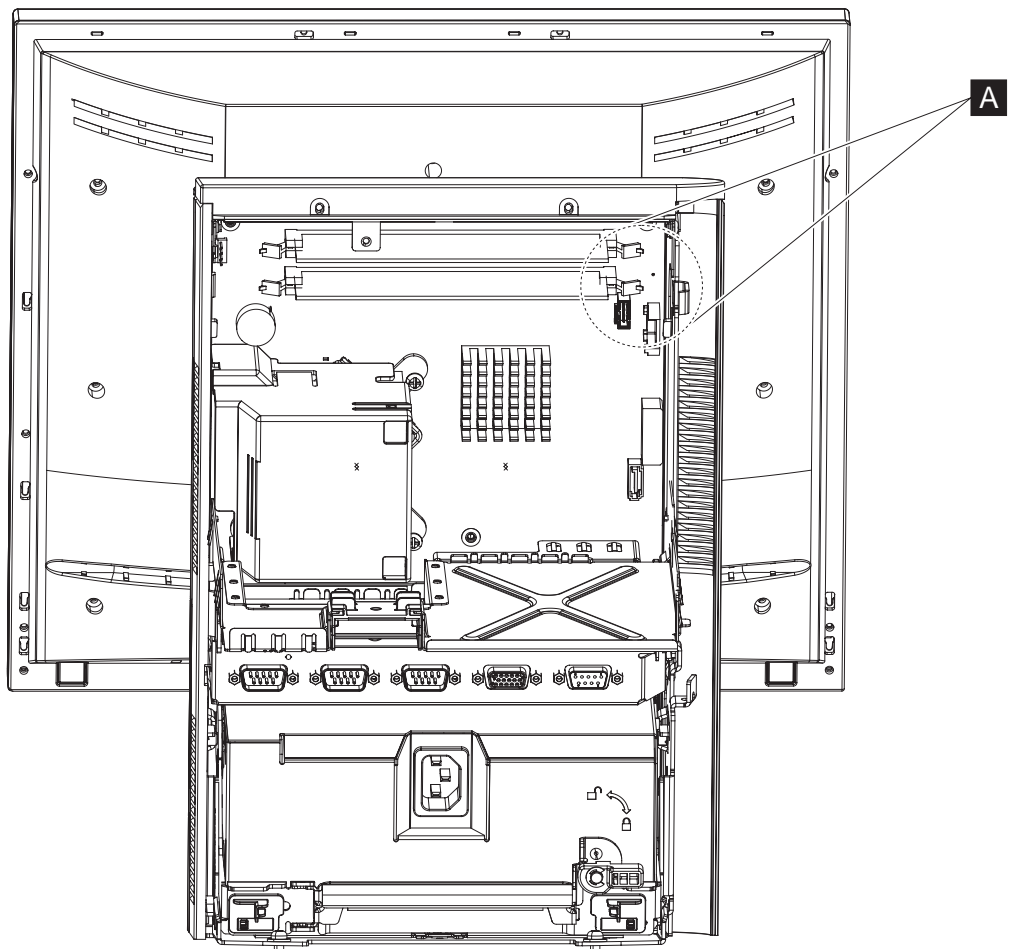

Figure 7. CMOS reset jumper J25
2. Locate the CMOS reset jumper (J25) on the system board. See **A** in Figure 7.